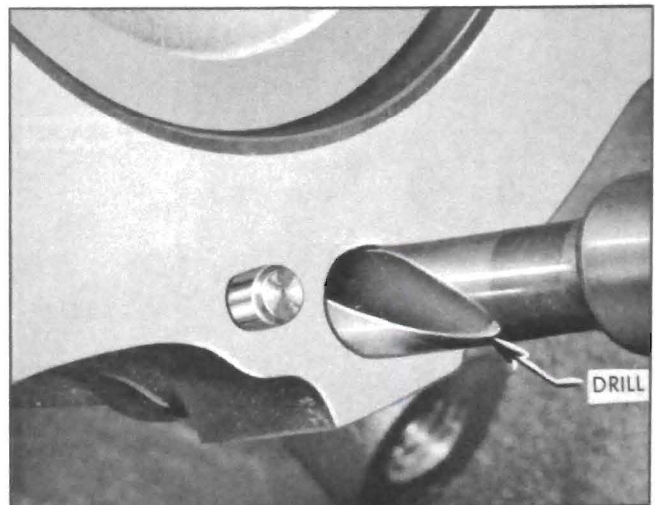

Figure 2-61—Drilling Out Damaged Threads
1. Prepare the hole. See Figure 2-61.